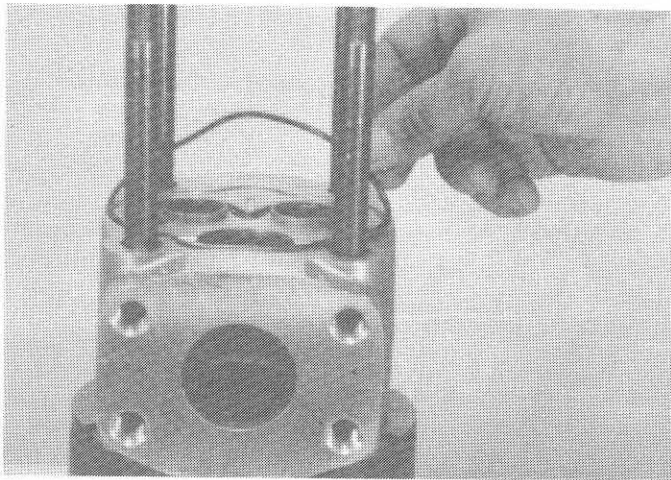

FIG. 10
12. Remove bearing plate o-ring (10), pressure balance o-ring (9), and nylon back-up strip (8). (Fig. 10)